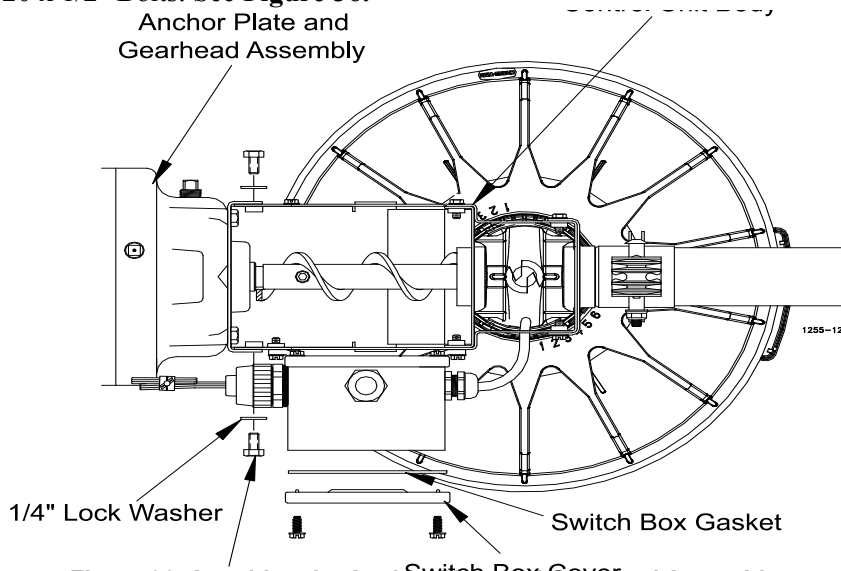

Figure 36. Attaching the Anchor Plate and Gearhead Assembly to the Control Unit Body
7. Attach the Anchor Plate and Gearhead Assembly to the Control Unit Body using the included 1/4" Lock Washers and 1/4-20 x 1/2" Bolts. See **Figure 36.**